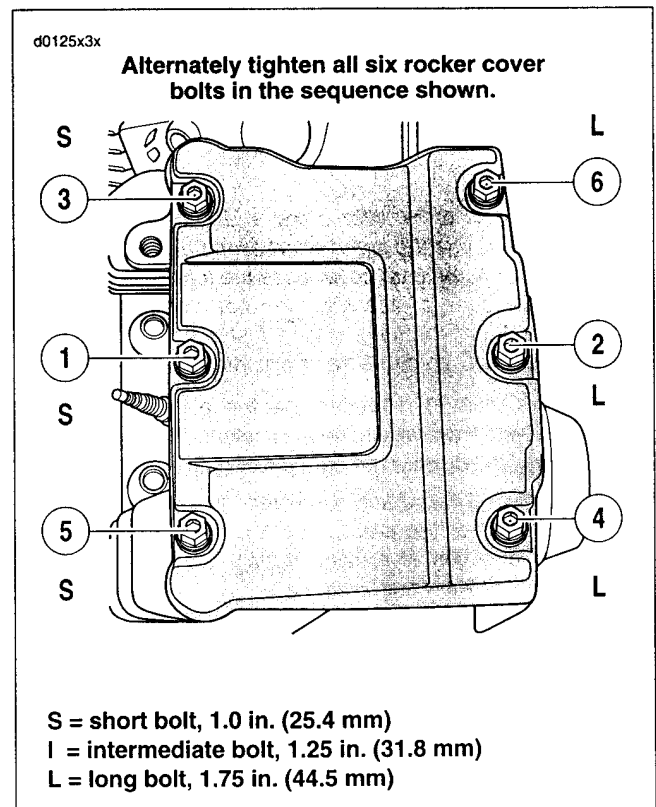

Figure 3-49. Rocker Cover Bolts Torque Sequence (Rear Cylinder Shown)
3. See Figure 3-49. Install rocker cover bolts.